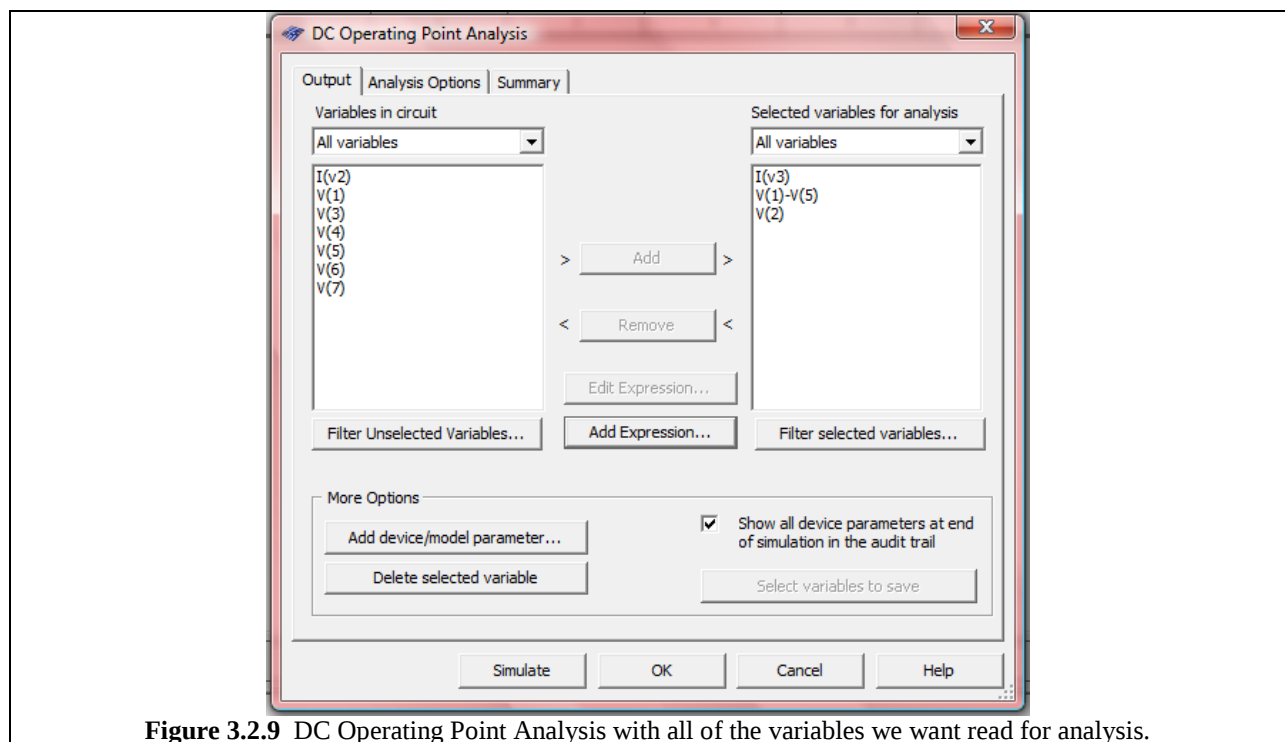

Figure 3.2.9 DC Operating Point Analysis with all of the variables we want read for analysis.
2. Press OK. Your DC Operating Point Analysis window should now look like that shown in Figure 3.2.9.